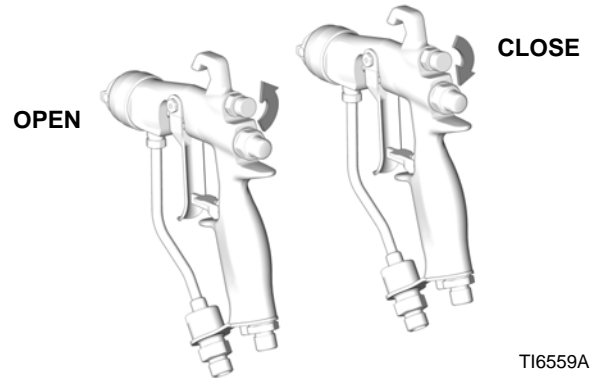

FIG. 14
- Close off the pattern adjustment air by turning the knob clockwise (in) all the way. See FIG. 14. This sets the gun for its widest pattern.
For a narrower pattern, turn the pattern adjustment valve knob counterclockwise (out). See FIG. 14. If the pattern is still not narrow enough, increase the air pressure to the gun slightly or use a different size tip. (Not available for RAC tip guns.)